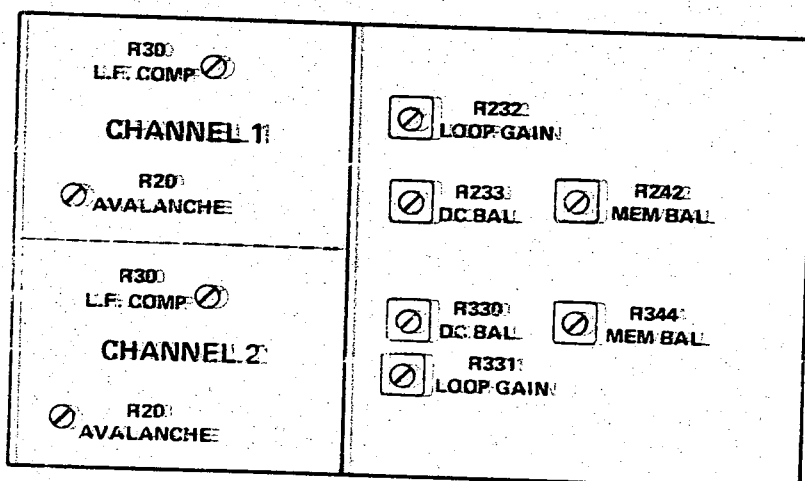

Fig. 7-11: Vertical Adjustment Locations.
a. Change the DELAYED SWEEP control to 1 ns, the CH 1 VOLTS/DIV to .1, then center the step using the DELAY TIME MULT control. Preset R232 (R331 for CH 2 - see Fig. 7-11) fully, counterclockwise.
b. Rotate R20 (see Fig. 7-11) clockwise until the step disappears; then counterclockwise until it barely makes a clear display. Note the horizontal position of the bottom corner and set R20 further counterclockwise until the bottom corner moves to the left one-half division. Ignore any vertical movement.